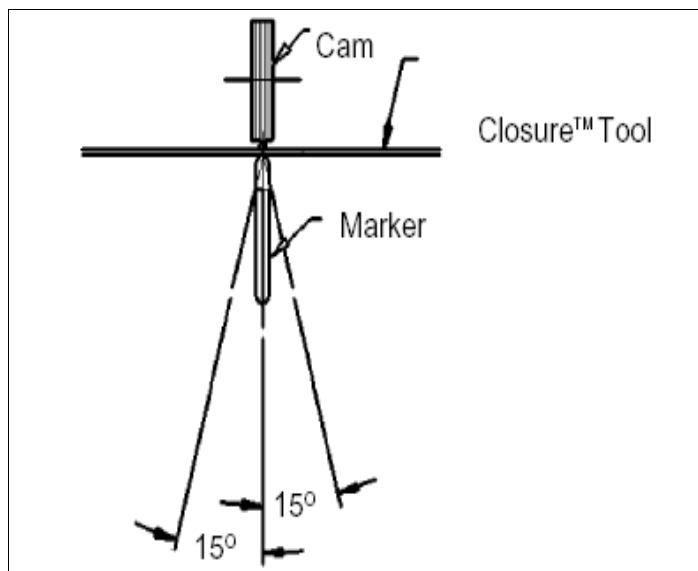

Figure 6-13 Top View of Cam and Marker Interface
Step 9 - Move the marker back and forth horizontally approximately 15° in both directions to create a line on the tape that identifies the closed rest position (Figures 6-13, 6-19 and 6-15).